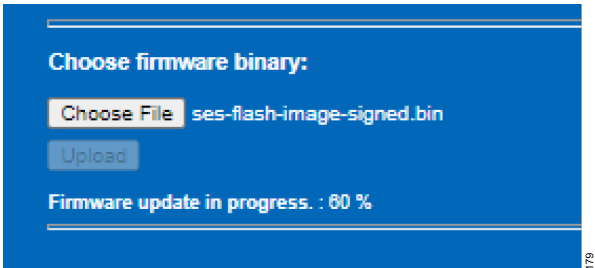

Figure 180. Firmware Update – Upload to Web Server
- 2. Figure 180 shows the progress of the file upload into the web server.